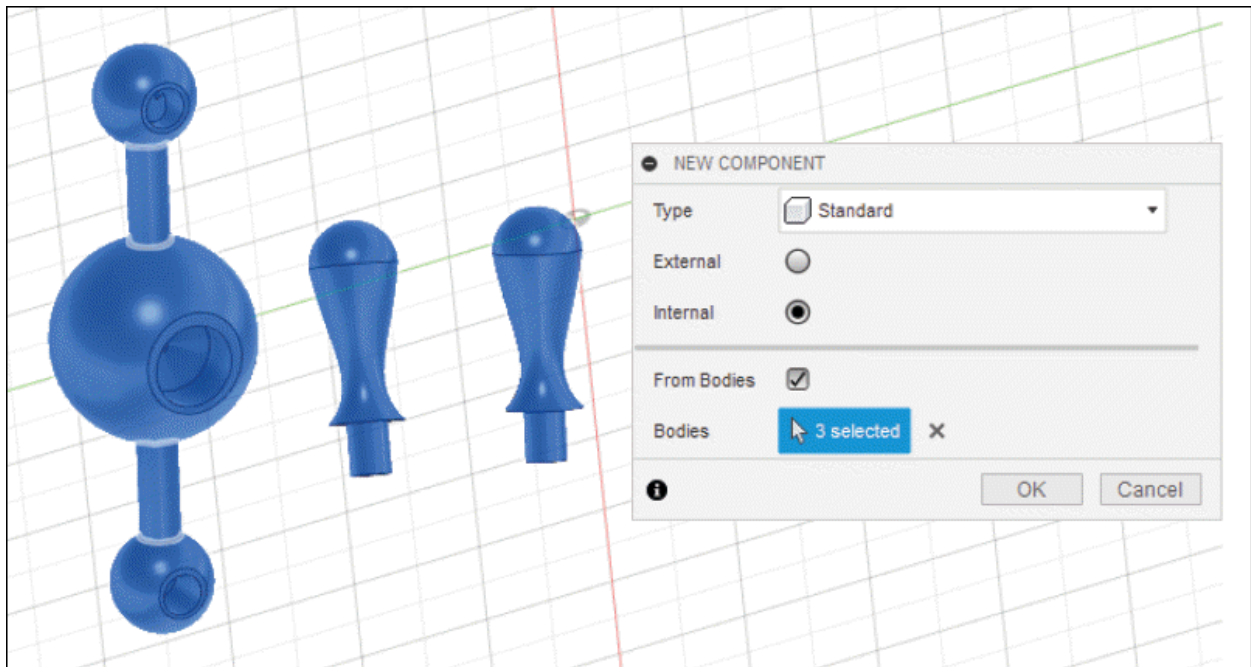

Figure-74. Selecting bodies to create components
- Select the **From Bodies** check box from **NEW COMPONENT** dialog box and select all the bodies to make them component; refer to Figure-74.